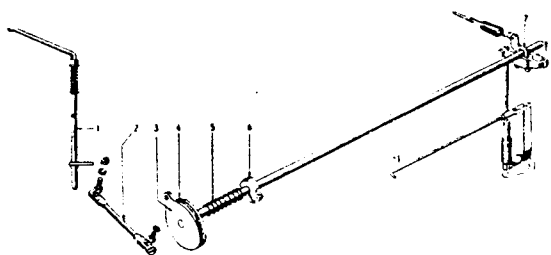

FIG. 4
8. Turn plate at end of throttle rod, Fig. 4, as far as possible anti-clockwise to the closed throttle position.
### To Remove Throttle Rod Assembly— Fig. 4.
### To Replace Throttle Rod Assembly— Fig. 4.